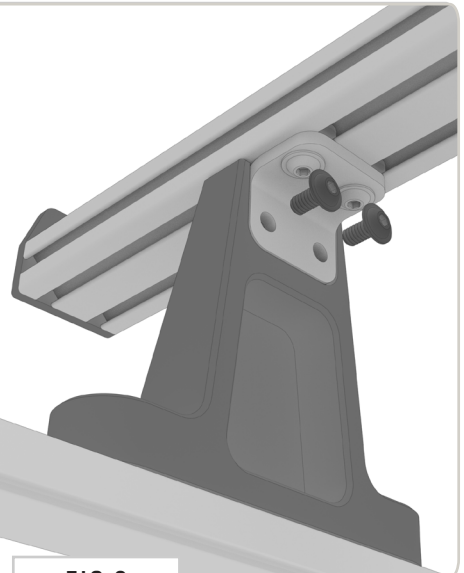

FIG 9
3.4 Attach Crossbar Bracket to Roof Rack Tower: Attach **Crossbar Assembly** to the pre-threaded locations of the **Roof Rack Tower** using (2ea) 1/4-20 x 0.5 **Flanged Button Head Hex Drive Screws** (FIG 9).